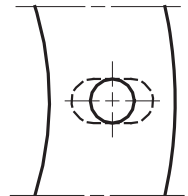

Fig. 4
- › Widen, if necessary, the insulating gasket holes (4), (see fig. 4).